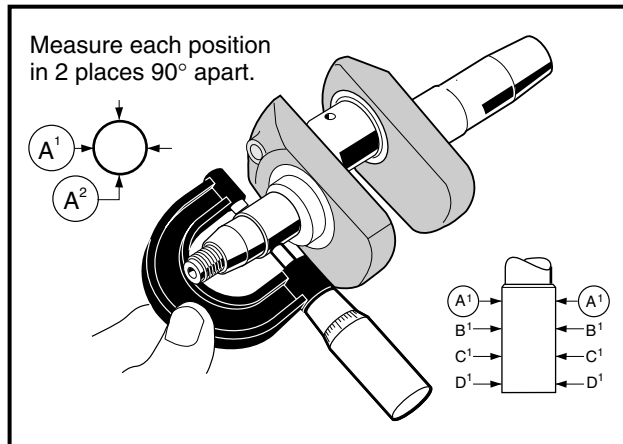

Figure 2-78 Measure Main Journals
2. Use a micrometer to measure both main journals (PTO side and flywheel side) at several points along their lengths (**Figure 2-78, Page 2-35**).